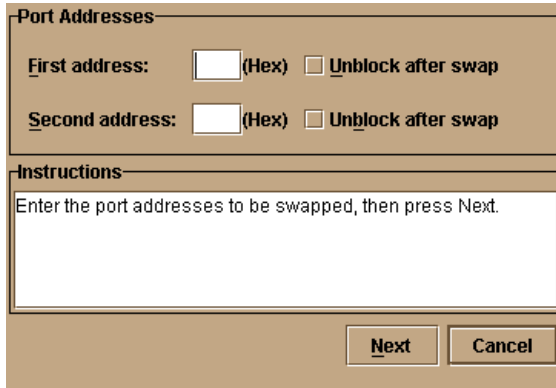

Figure 3–16: Swap Ports Dialog Box
4. At the navigation control panel, select Swap Ports from the Maintenance menu. The Swap Ports dialog box displays (Figure 3–16).